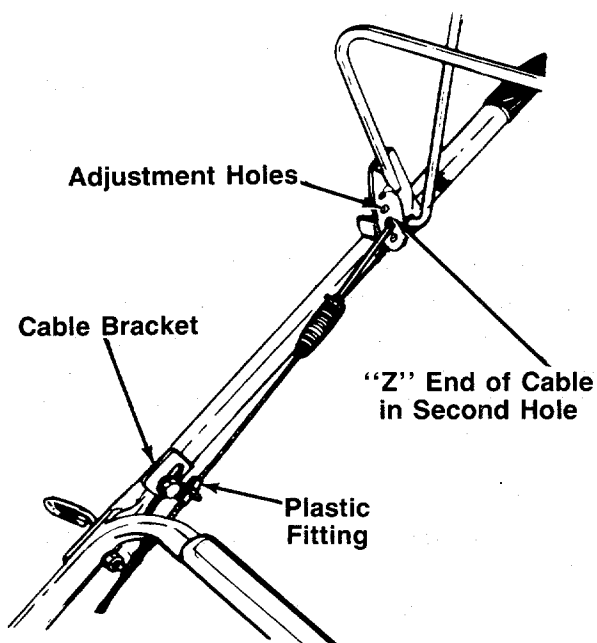

FIGURE 10.
1. The drive clutch cable is attached to the drive cover, and has a spring on one end. Route the clutch cable around the base of the engine (right hand side), inside the handle mount bracket and under the lower handle. Hook the spring on the end of the cable into the **second hole from the bottom** on the drive clutch control handle. See figure 10.
3. With the drive clutch control handle released, pull down on the cable and cable bracket until there is approximately 1/8" clearance between the drive pinions and the drive wheels. See figures 10 and 11. Tighten the cable bracket in this position.